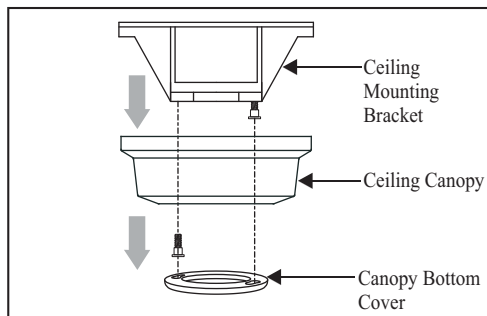

Figure 5
1. Remove the decorative canopy bottom cover from the canopy by turning the cover counter clockwise. (Figure 5)
2. Remove the mounting bracket from the canopy by removing the 1 of 2 screws from the bottom of the mounting bracket and loosening the other one a half turn from the screw head. Next, turn the canopy counter clockwise to removing the mounting bracket from the canopy. (Figure 5)